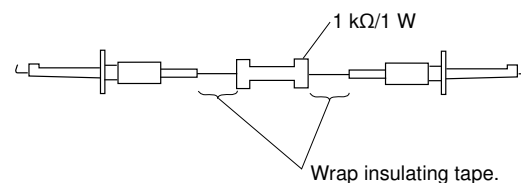

Fig. 5-1-5
2. Fabricate the discharging jig as shown in Fig. 5-1-5 locally by yourself. Connect the discharging jig to the positive (+) and negative (–) terminal of the flash voltage charge capacitor. Allow ten seconds to discharge the voltage.